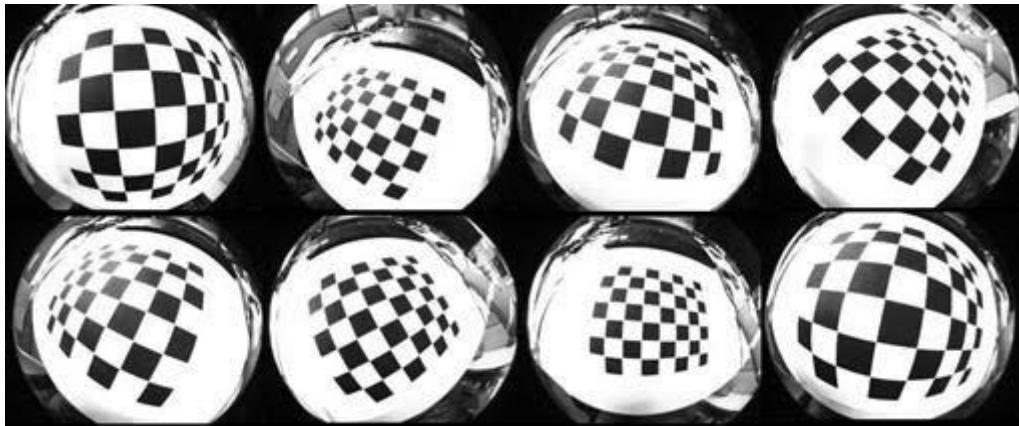

Figure 6. Image capturing example
- Place the checkerboard as close to the cameras as possible (see Figure 6). This improves the calibration and helps the Automatic Checkerboard Extraction tool to find all corners. Make sure that every corner of the checkerboard is visible in each image. For the Automatic Checkerboard Extraction tool, it is important that a white border is visible around the pattern.
An example of proper sample images captured with a fisheye camera with a 180-degree field of view is shown in Figure 6.